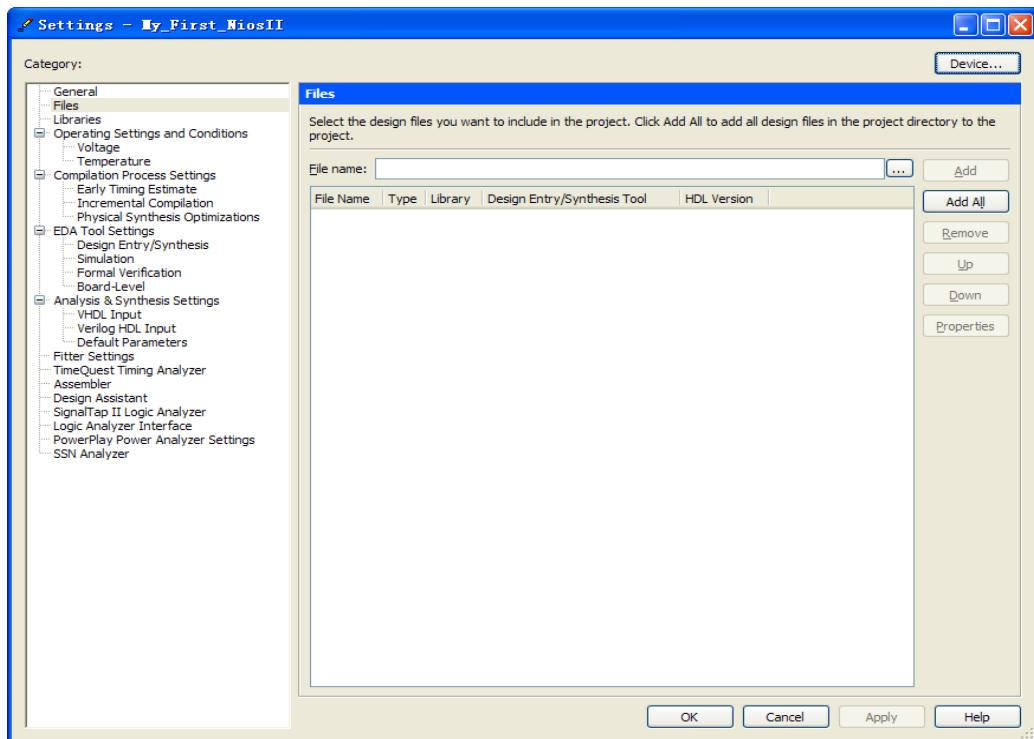

## Figure 1-57 Save Verilog file
35. Choose **Save** Icon in the tool bar. There will appear a window as shown in Figure 1-57. Click **Save**.